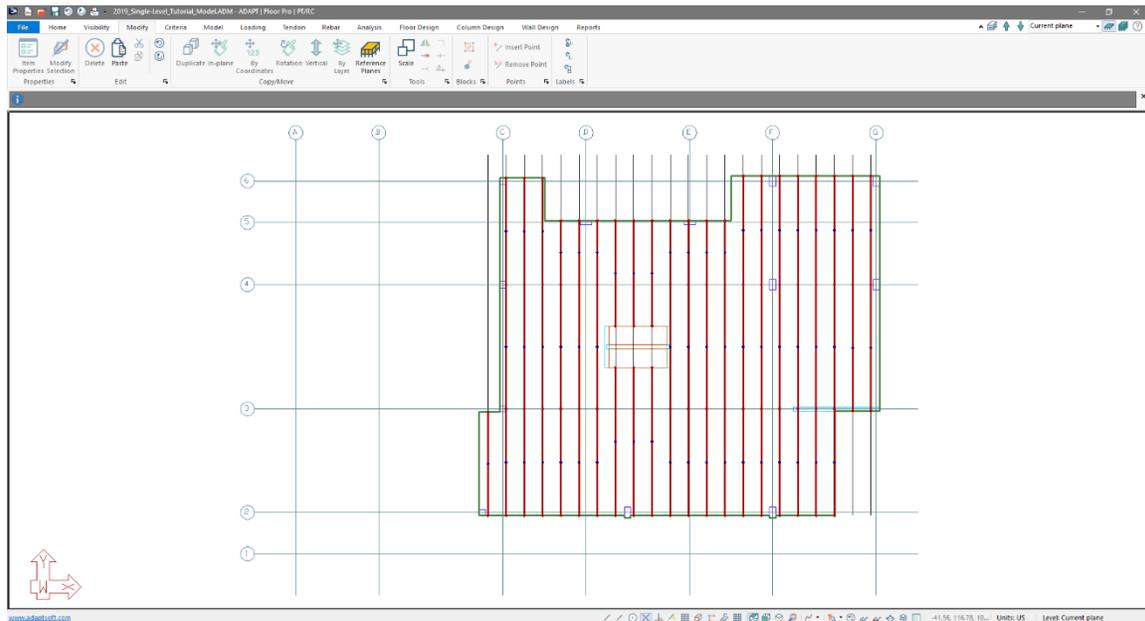

Figure 8-33
- Once you have completed modeling and copying the master tendons click on the *Top View*  icon in the **Bottom Quick Access Toolbar**. This will bring you to the view of the model shown in **FIGURE 8-33**.